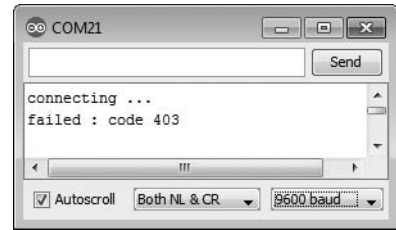

Figure 19-5: Results of tweeting too quickly
When you're creating your Arduino tweeter, keep in mind that you can send no more than one tweet per minute and that each message must be unique. (These are Twitter's rules.) When sending tweets, Twitter also replies with a status code. The sketch will receive and display this in the Serial Monitor using the code at ❹, an example of which is shown in Figure 19-5. If you receive a "403" message like this, either your token is incorrect or you're sending tweets too quickly. (For a complete list of Twitter error codes, see <http://dev.twitter.com/docs/error-codes-responses/>.)